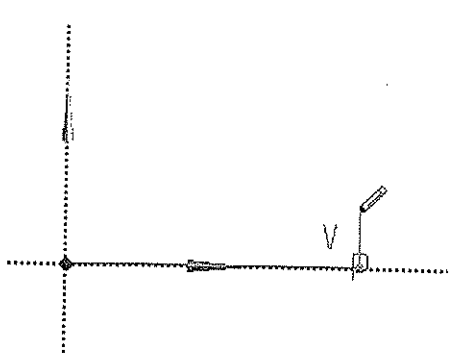

Figure 3-22 Specifying the endpoint of line 2
10. Move the cursor vertically upward; the symbol of Vertical constraint (V) is displayed. Click to specify the end point of the line; line 2 is drawn, as shown in Figure 3-22.